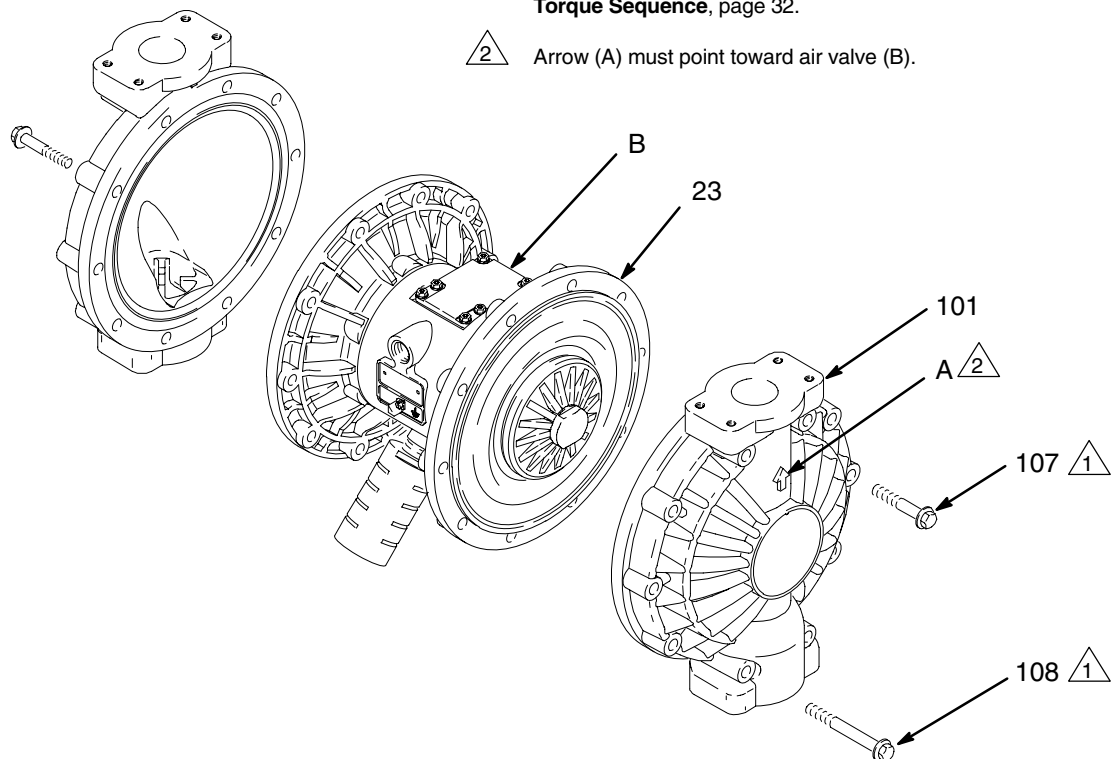

Fig. 12
3. Using 13 mm socket wrenches, remove the screws (107 and 108) holding the fluid covers (101) to the air covers (23). Pull the fluid covers (101) off the pump. See Fig. 12.
4. Apply medium-strength (blue) Loctite® or equivalent to the threads of the fluid-side plates (105). Hold one of the outer plates (105) with a wrench, and torque the other outer plate to 20 to 25 ft-lb (27 to 34 N•m) at 100 rpm maximum. Do not over-torque.
5. Align the fluid covers (101) and the center housing (1) so the arrows (A) on the covers face the same direction as the air valve (B). Secure the covers with the screws (107 and 108), handtight. Install the longer screws (108) in the top and bottom holes of the covers. See Fig. 12.
6. First, torque the longer screws (108) oppositely and evenly to 190–220 in-lb (21–25 N•m), using a 13 mm socket wrench. Then torque the shorter screws (107). See **Torque Sequence**, page 32.